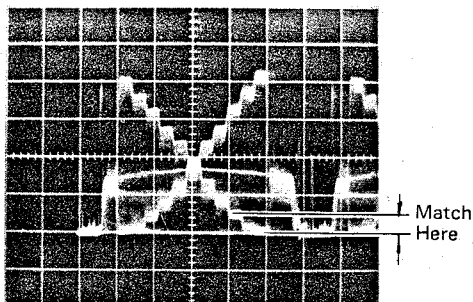

Fig. 6-4-34
- Adjust Y_L PEDESTAL VR306 so that the Y_L signal matches the B signal in the 0~2nd step of gray scale waveform. (Fig. 6-4-34)